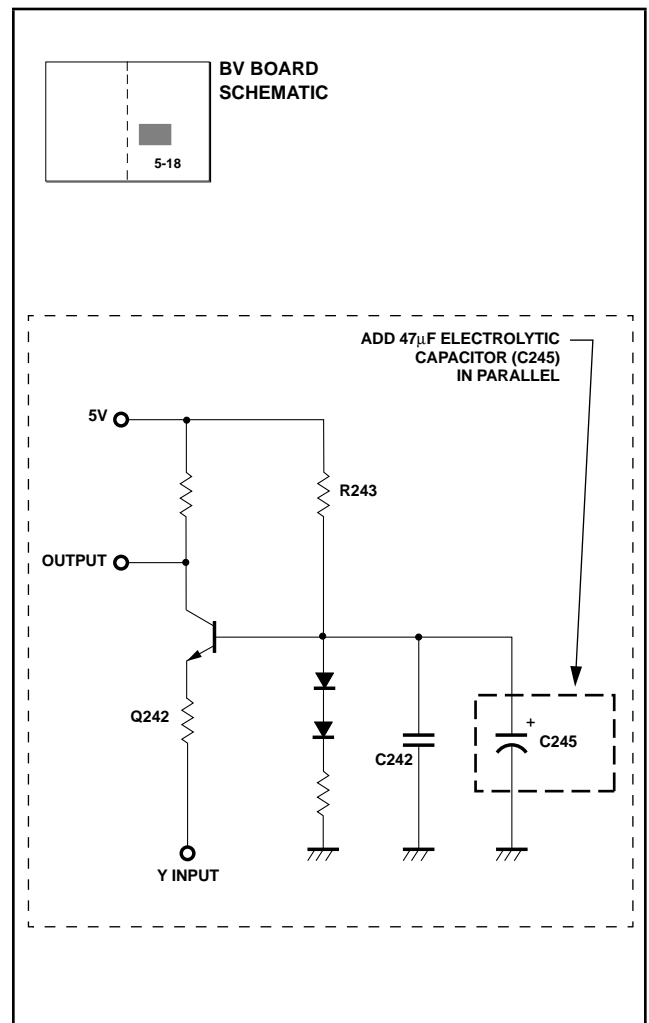

Figure 2
2. Solder a 47μF electrolytic capacitor (C245) on the BV board (solder side, zone B-3) in parallel with C242. (See Figure 2.)